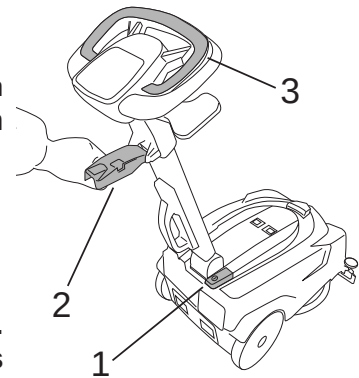

Fig.16
- Press the main switch (fig. 16, ref. 1).
- Lower the squeegee by operating the lever (fig. 16, ref. 2).
- Depress the brush control lever (fig. 16, ref. 3).
- Raise the squeegee by operating the lever (fig. 16, ref. 2).